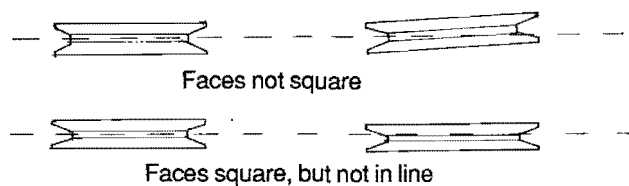

Figure 14-9. Pulley misalignment.
2. The driving pulleys on the stub shaft must be in correct alignment with the driven pulleys on the auxiliary equipment. A straight steel rod held in the groove of one pulley should drop cleanly into the groove of the other pulley. This should be repeated on both sides of the pulleys. Figure 14-9 gives examples of pulley misalignment.